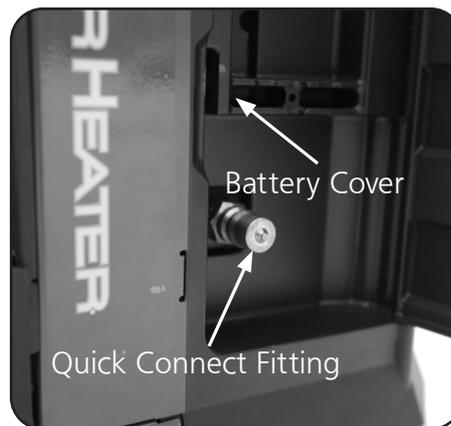

Figure 5
Open the battery cover located inside the accessory compartment to install the "AA" battery (included). See Figure 5.
2. Attach accessory hose onto the quick connect fitting in the side compartment of heater. See Figure 5.